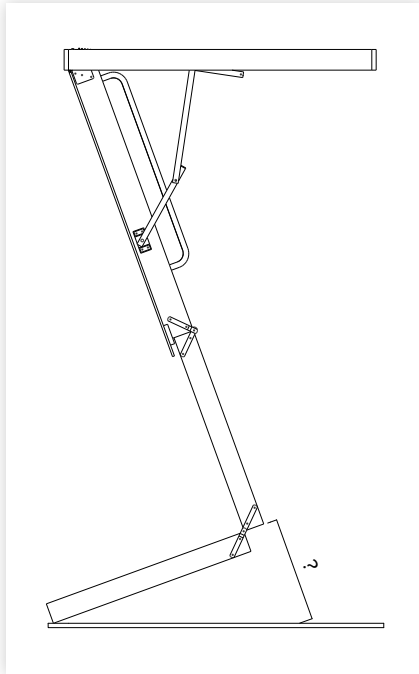

figure 10
1. With the top and middle sections of the ladder open and the bottom section tucked in behind, measure the distance from the bottom of the middle section, to the floor at the same angle as the ladder (figure 10). Do this on both sides.
2. Once you have determined the length of 'x' (figure 10) transfer these measurements to the front of each side of the bottom section of the ladder. Mark the cut off back from these points at the same angle as the treads.